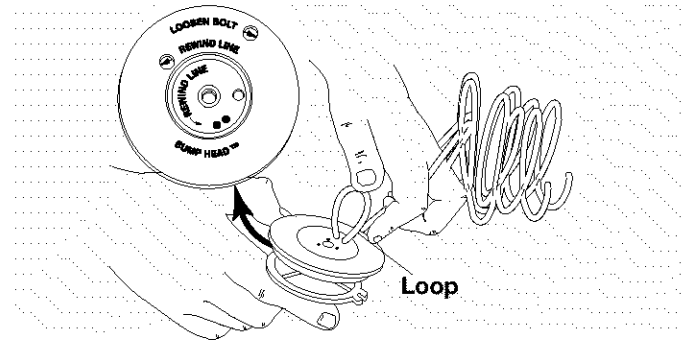

Fig. 23
1. Take approximately 25 ft. (7.6 m) of new trimming line. Loop it into two equal lengths. Insert each end of the line through one of the two holes in the reel. Pull the ends through equally until the loop is as small as possible (Fig. 23).